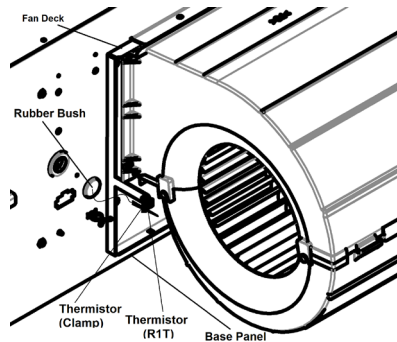

Fig. 22
- 2) Carefully remove the screw on the thermistor clamp and remove the (1) thermistor cables (R1T). (Fig 22).
- 3) Wrap the thermistor cable and place it neatly into the rubber bush next to the fan deck. (Fig 22).
- 11) Place the (1) thermistor cable (R1T) back to the side of the fan deck and secure it with the screw and themistor clamp. (Please make sure that tip of the thermistor is position horizontally opposite to the fan casing. (Fig 22).